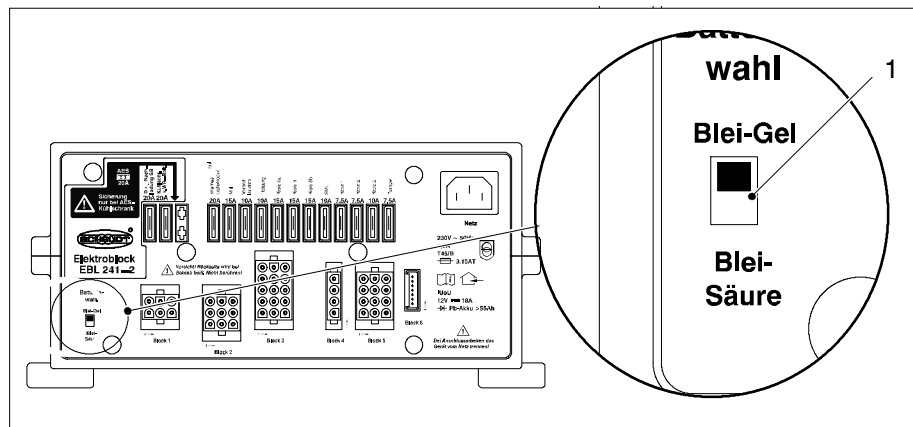

Fig. 1 Battery selector switch
- Move the battery selector switch (Fig. 1, Pos. 1) to the correct position using a thin object (e.g. a ballpoint pen):